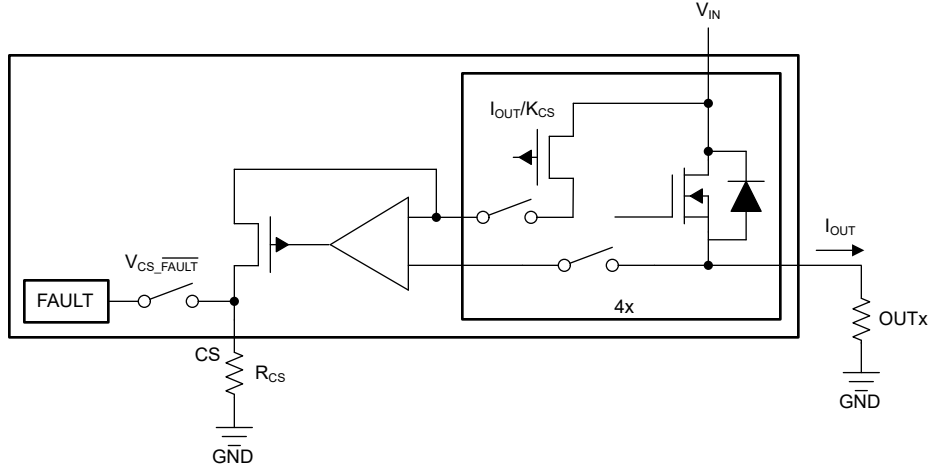

図 8-2. Current-Sense Block Diagram
$K_{CS}$  is the ratio of the output current and the sense current (CS). It is a constant value across the temperature and supply voltage (IN). Each device is calibrated accurately during production, so post-calibration is not required. See Figure 8-2 for more details.